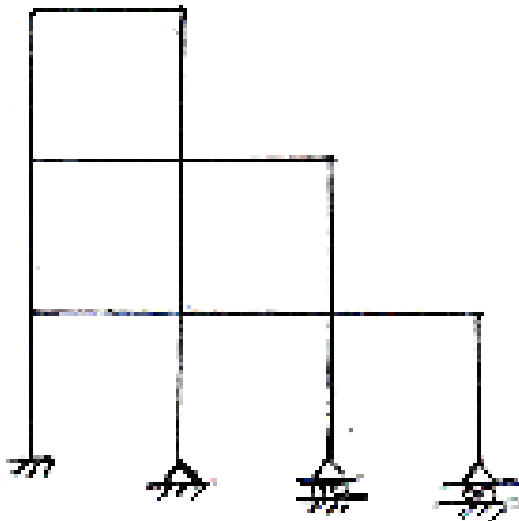

Fig. 1
- b) Define Kinematic degree of indeterminacy. Find total degree of indeterminacy (Static and Kinematic) for the structure shown in Fig. 1. **6**